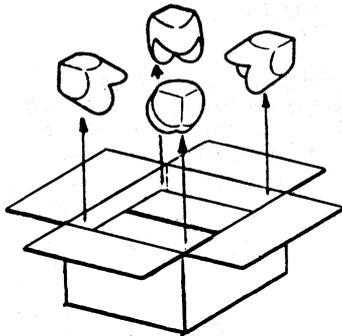

Fig. 5—Printer Carton Packing Details
2.04 132-Column and Forms Access — Open printer carton and remove corner details (Fig. 5).